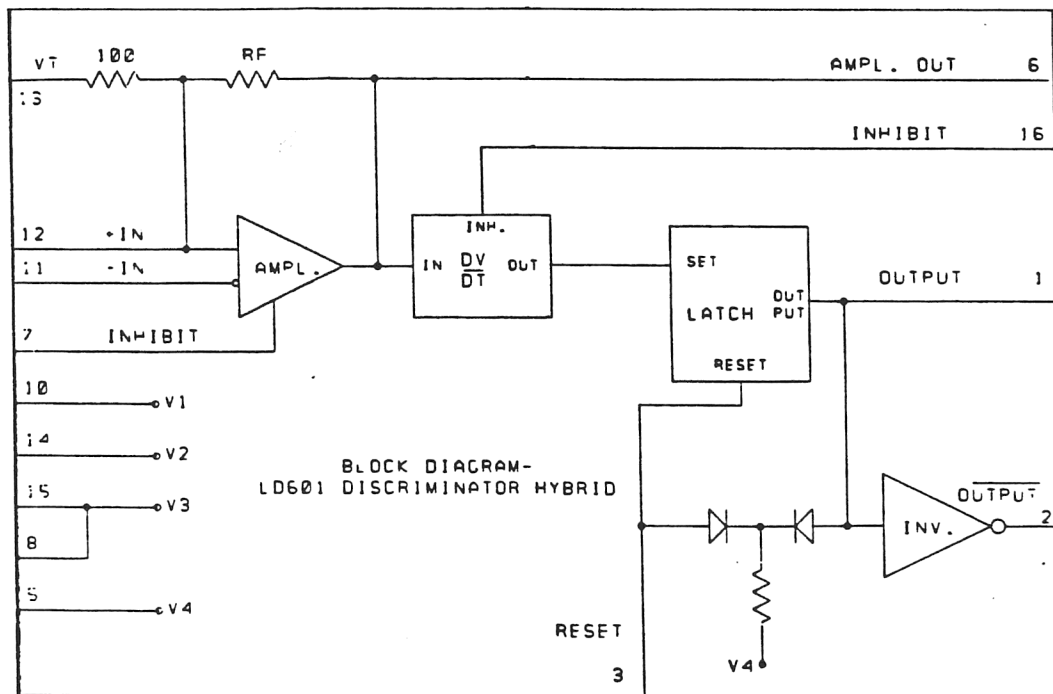

Figure 2.2
The discriminator and pulse former stage is based on the LRS Model LD601C hybrid. This unit contains all of the circuitry of the discriminator as is functionally presented below. The threshold level is set by changing the voltage bias on a fast differential amplifier which has a small amount of internal positive feedback to provide regeneration at threshold. In actual operation the V_T is grounded, and the threshold level is determined by the 2.5:1 (AND) or 4:1 (OR) voltage divider (composed of the switch selected external 150 Ω or 300 Ω resistor and the internal 100 Ω resistor) operating from -0.8 V (Figure 2.2).